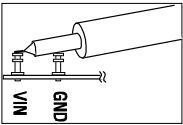

Figure 2. Measuring Input or Output Ripple
**NOTE.** When measuring the input or output voltage ripple, care must be taken to avoid a long ground lead on the oscilloscope probe. Measure the input or output voltage ripple by touching the probe tip directly across the VBAT and GND terminals. See Figure 2 for proper scope probe technique.